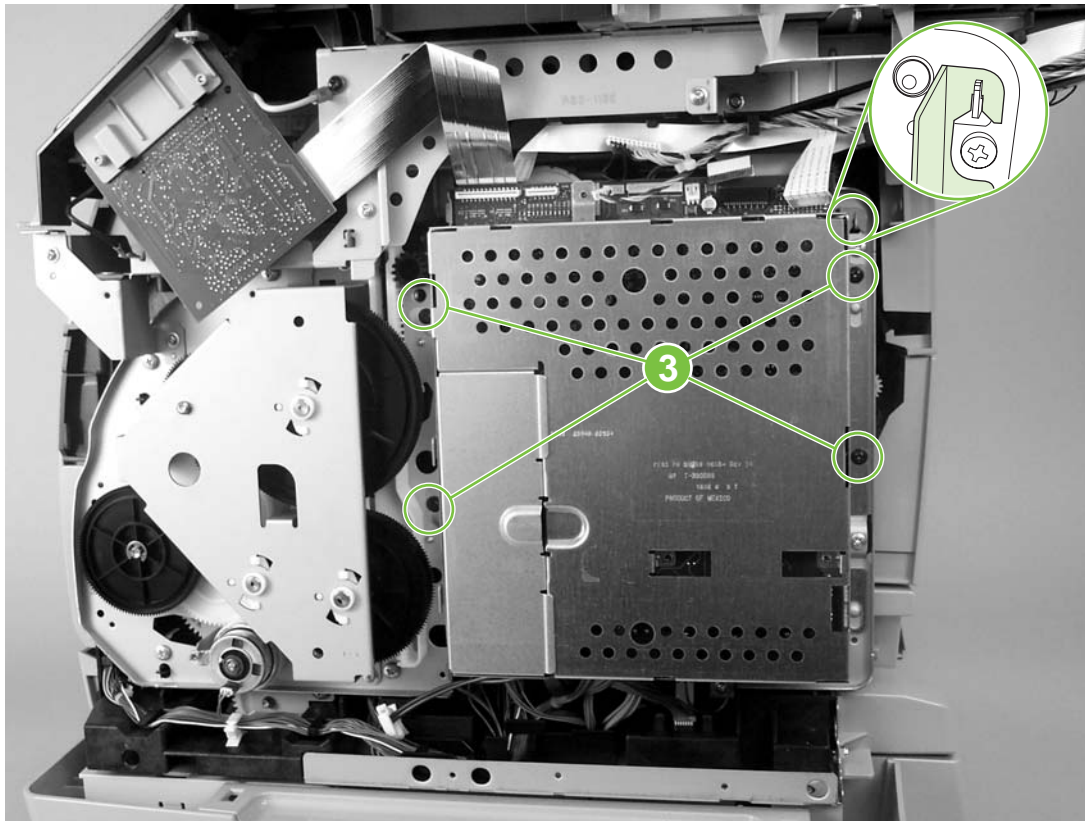

Figure 5-61 Remove the formatter cage (3 of 3)
- 4 Remove four screws (callout 3) from the formatter cage, and then lift the formatter to disengage the hooks at the top of the formatter cage (see inset in Figure 5-61 Remove the formatter cage \(3 of 3\)).